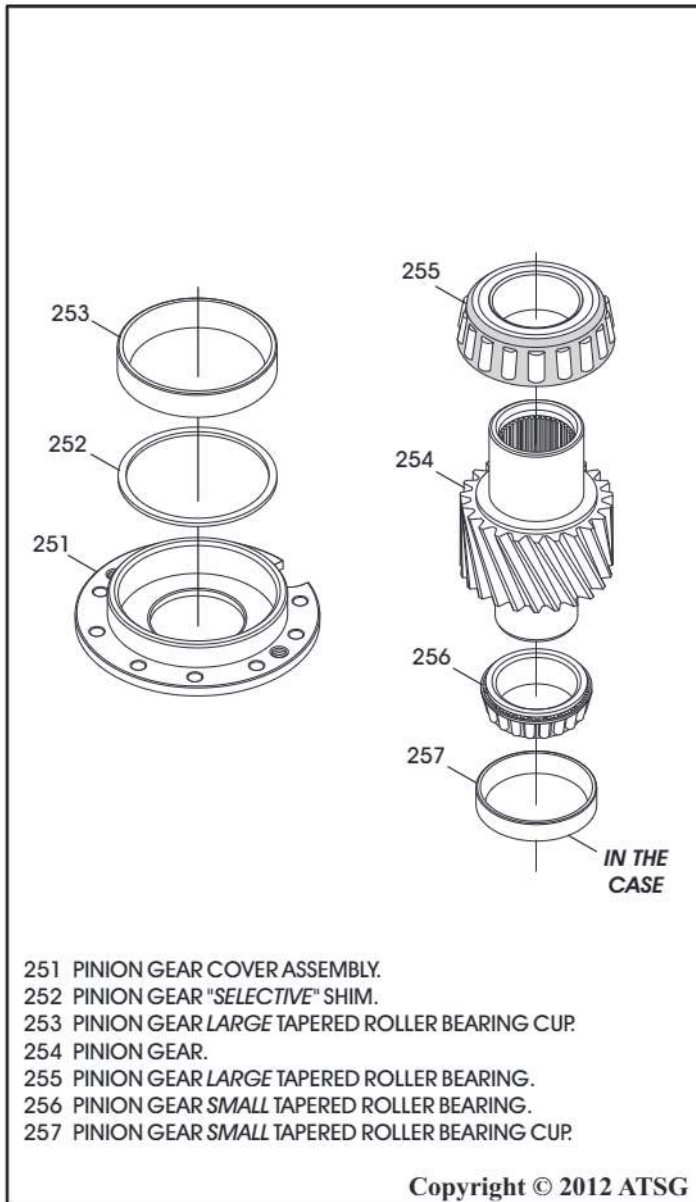

Figure 91
1. Install new large & small tapered roller bearings on the pinion gear, as shown in Figure 91, using proper adapters and hydraulic shop press.
2. Install new large tapered roller bearing cup into pinion gear cover along with selective shim, as shown in Figure 91, using proper adapters and hydraulic shop press.